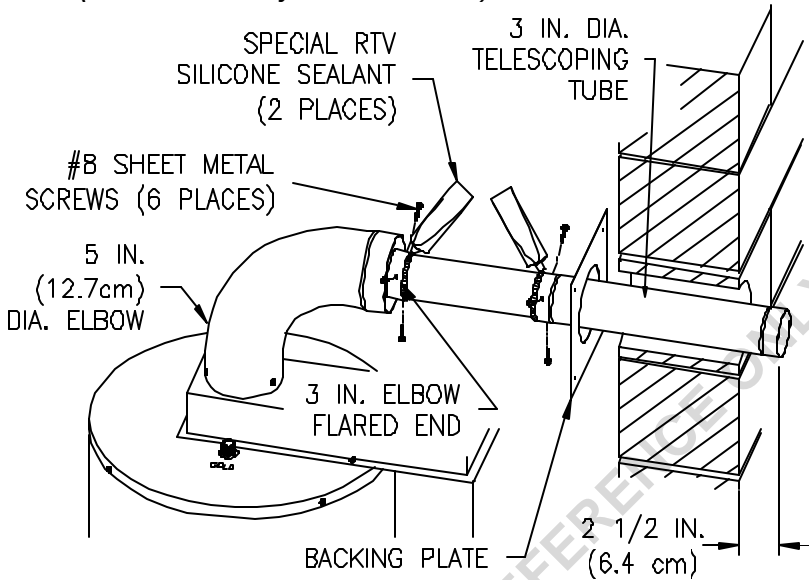

Figure 10
7. Extend the three (3) inch (7.6 cm) diameter telescopic tube to its maximum length and slide the backing plate over it. Place the large end of the three (3) inch (7.6 cm) diameter telescopic tube through the hole in the outside wall. Insert the smaller end of the three (3) inch diameter (7.6 cm) telescopic tube into the flared end of the three (3) inch (7.6 cm) diameter elbow, one (1) inch (2.5 cm) (or until seated). Drill three (3) 1/8 inch diameter holes, 120° apart, through the three (3) inch (7.6 cm) diameter elbow into the three (3) inch (7.6 cm) diameter telescopic tube. Fasten with three (3) #8 sheet metal screws (supplied). Adjust the overall length of the three (3) inch (7.6 cm) diameter telescopic tube so that 2-1/2 inches (6.4 cm) extends beyond the outside wall. Drill three (3) 1/8 inch diameter holes, 120° apart, through the three (3) inch (7.6 cm) diameter telescopic tubes where the small and large sections overlap. Fasten with three (3) #8 sheet metal screws (supplied). Using the supplied special RTV silicone sealant, apply a sufficient amount to seal the joints (See Figure 10).